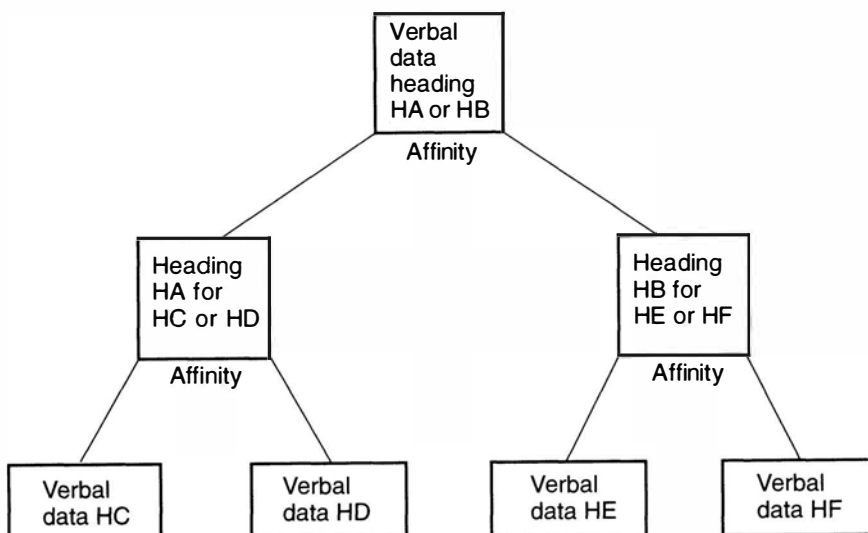

Figure 1 *Affinity diagram*
Each team member starts by writing ideas about customer needs on separate file cards. Then, laying the cards on a table without conversation to influence them, the team members should arrange them into the natural groups they can identify. Ideas which have an affinity for each other should be grouped together. An example of an affinity diagram is shown in Figure 1.
- 2 Arrange the data generated by the team under subordinate headings (see Figure 1):